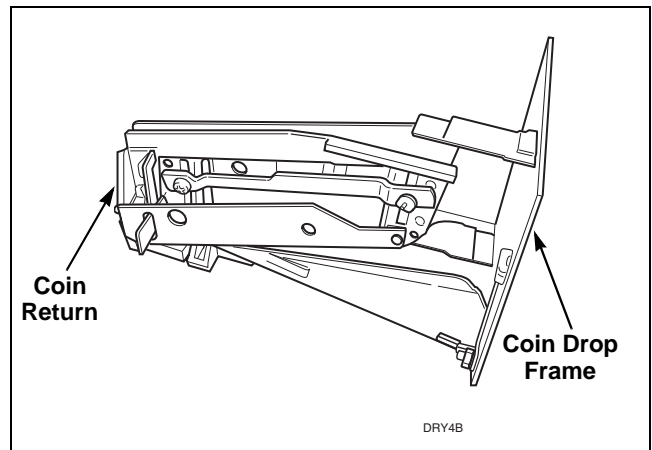

Figure 58
- Remove coin return from coin drop frame. Refer to *Figure 58*.